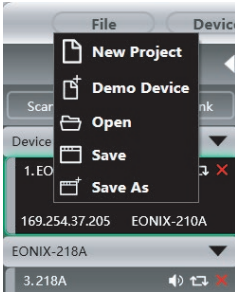

Figure 2.2 "File" menu
6.2.1 File (As shown in figure 2.2)